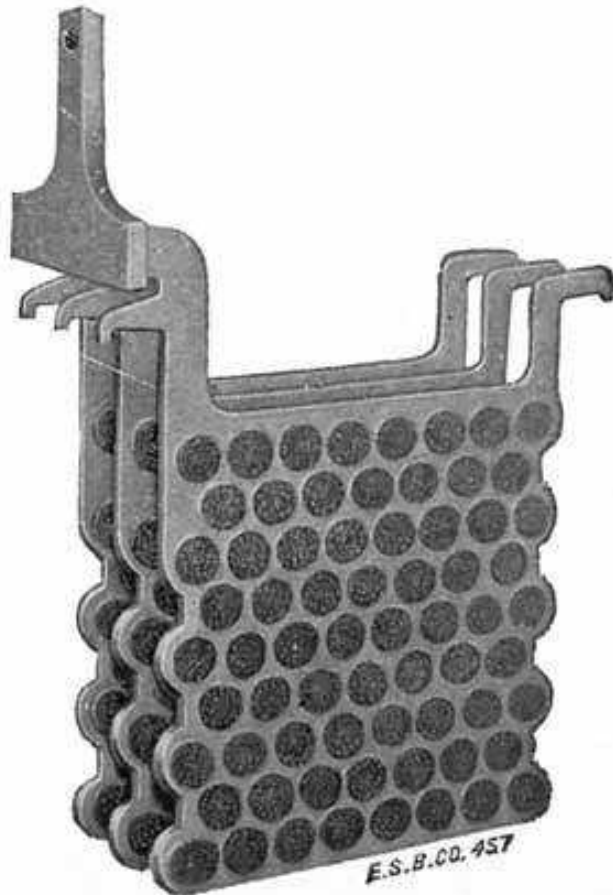

Fig. 325. Manchester Positive Plates
**2. The Chloride Accumulator cell** is shown in Fig. 323. It differs from the Exide only in type of plates and separators. The positive plates are known as Manchester positives and have the active material in the form of corrugated buttons which are held in a thick grid, as shown in Fig. 325. The buttons are brown in color, the same as all positive active material.